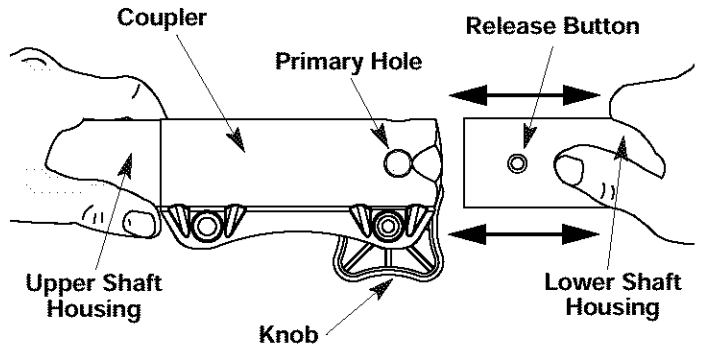

Fig. 8
3. While firmly holding the upper shaft housing, pull the tree pruner attachment out of the coupler (Fig. 8).
2. While firmly holding the add-on, push it straight into the coupler (Fig. 8).
**CAUTION:** Lock the release button in the primary hole (Fig. 8) and securely tighten the knob before operating this unit.